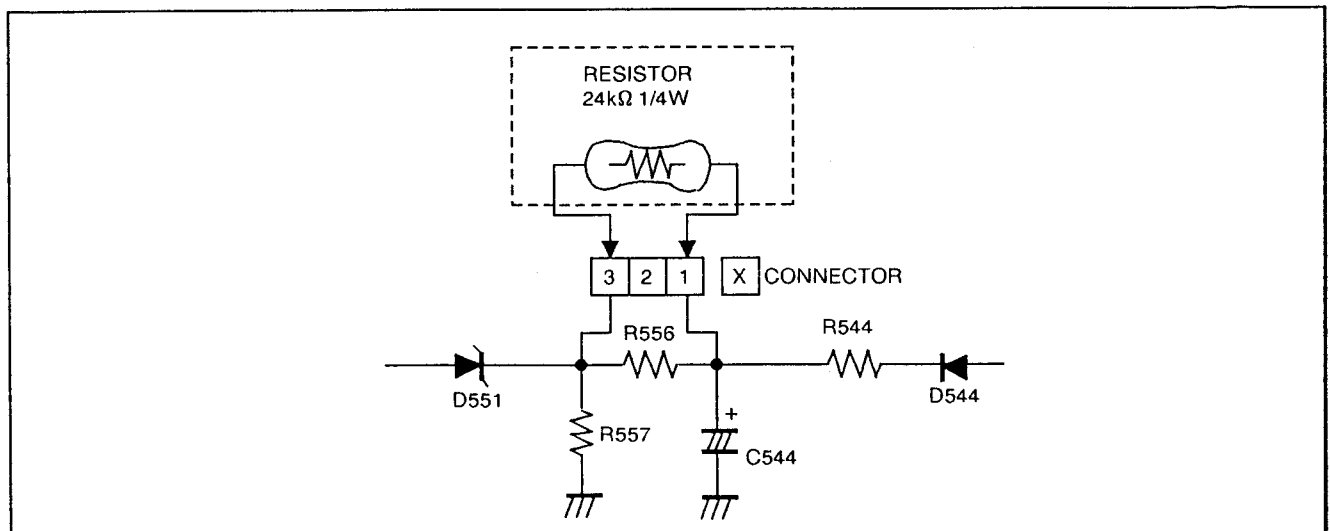

Fig. 2
- (1) Turn the POWER SW ON.
- (2) As shown in Fig. 2, set the resistor (between ☐ connector 1 & 3).
- (3) Make sure that the screen picture disappears.
- (4) Temporarily unplug the power cord.
- (5) Remove the resistor( between ☐ connector 1 & 3 ).
- (6) Again plug the power cord, make sure that the normal picture is displayed on the screen.